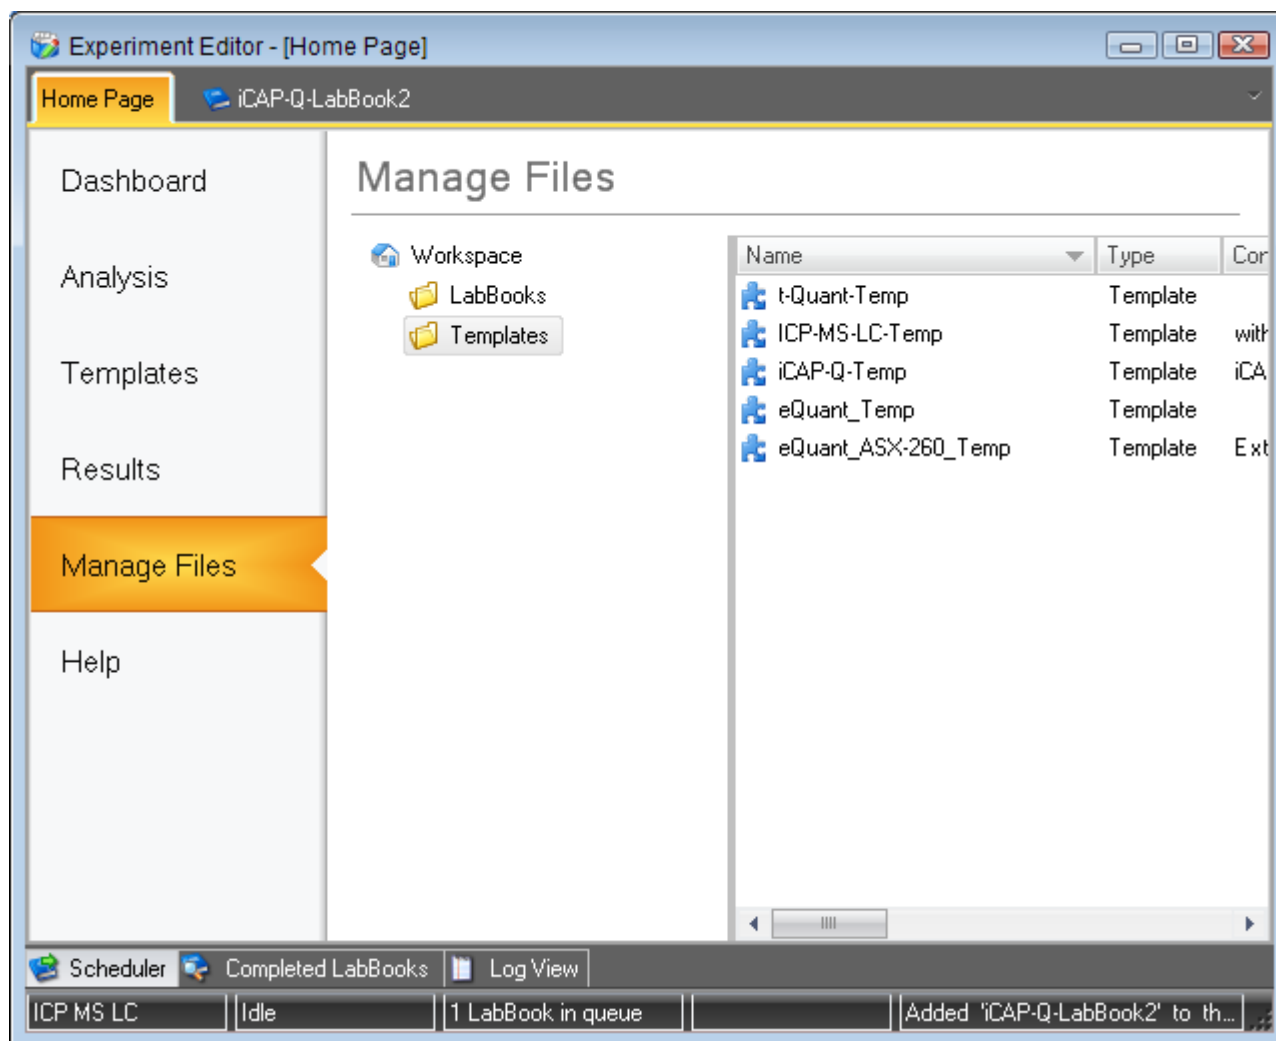

Figure 5-21. Manage Files - Templates
3. Click the **Templates** folder, see Figure 5-21.